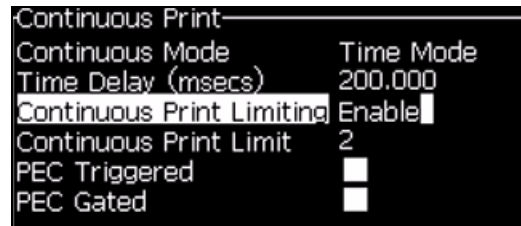

Figure 4-25: Continuous Print Dialog Box
- 1 Select *Continuous Print* from the *Print Menu*. The *Continuous Print* dialog box appears (see Figure 4-25).